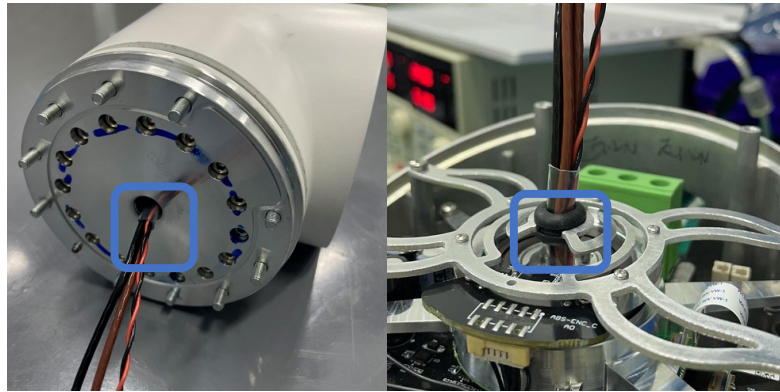

Figure 3-18 Cables are routed to the joints
- Threading: The wires on the joint must be pair to the correct joint. Please also pay attention to the direction of the wires. The wires should be insert from the flange shaft side, then come out from the end cover. The wiring route are fixed to specified positions (these positions should have heat shrinking tubes on both flange shaft side and wire racks) as shown in Figure 3-18: